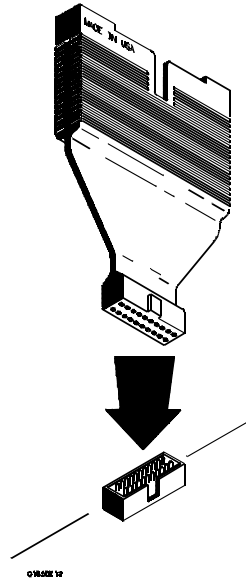

Figure 1-2. Connecting the Termination Adapter
2. Connect the other end of the termination adapter to the preprocessor interface (see figure 1-2).